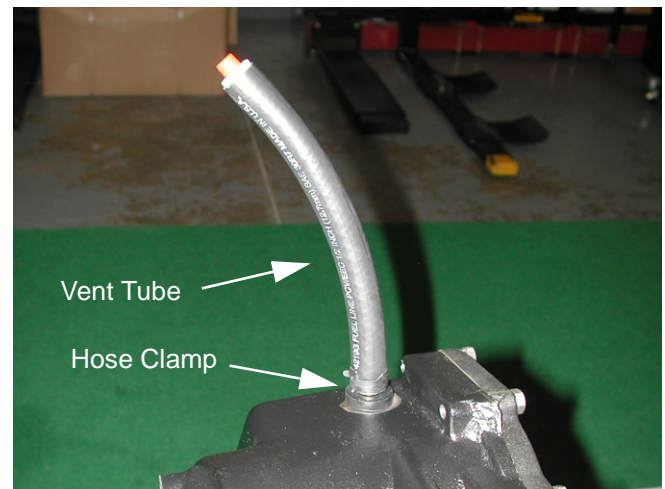

Figure 17
24. Loosen and slide the hose clamp up the vent tube using a large pair of pliers. See Figure 17.